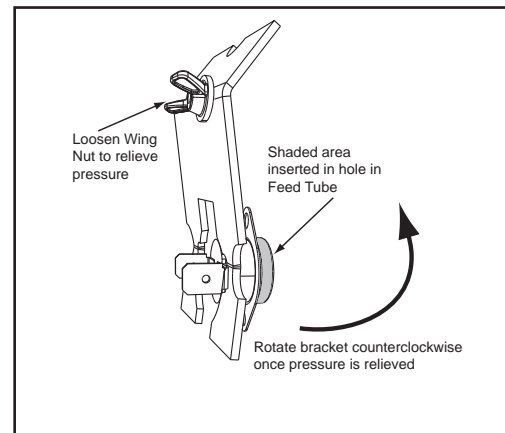

Figure 21.4
- Loosen wing nut to relieve the pressure on snap disc from the bracket. The shaded area of the snap disc is inserted into a hole in the feed tube. **NOTE:** You may need pliers to start the wing nut. **Figure 21.4.**